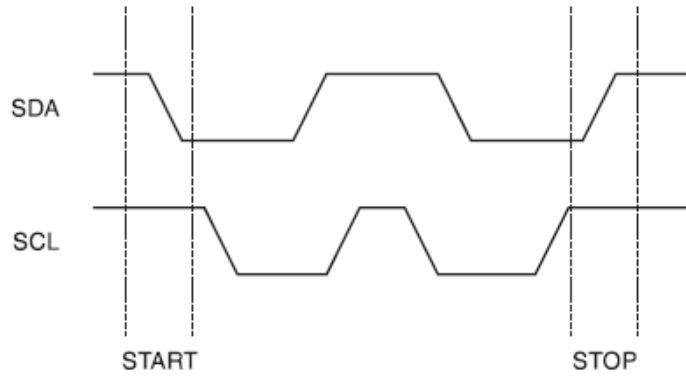

Figure 7: Start and Stop Definition
**START CONDITION:** A high-to-low transition of SDA with SCL high is a start condition which must precede any other command (see Figure 7).
**STOP CONDITION:** A low-to-high transition of SDA with SCL high is a stop condition. After a read sequence, the stop command will place the KT0803L in a standby power mode (see Figure 7).